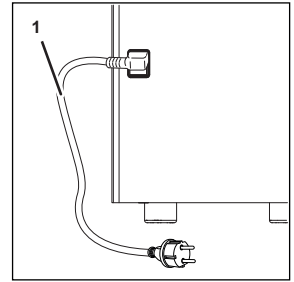

Figure 21
- a. Disconnect the AC power line (Figure 21/1) from the unit.